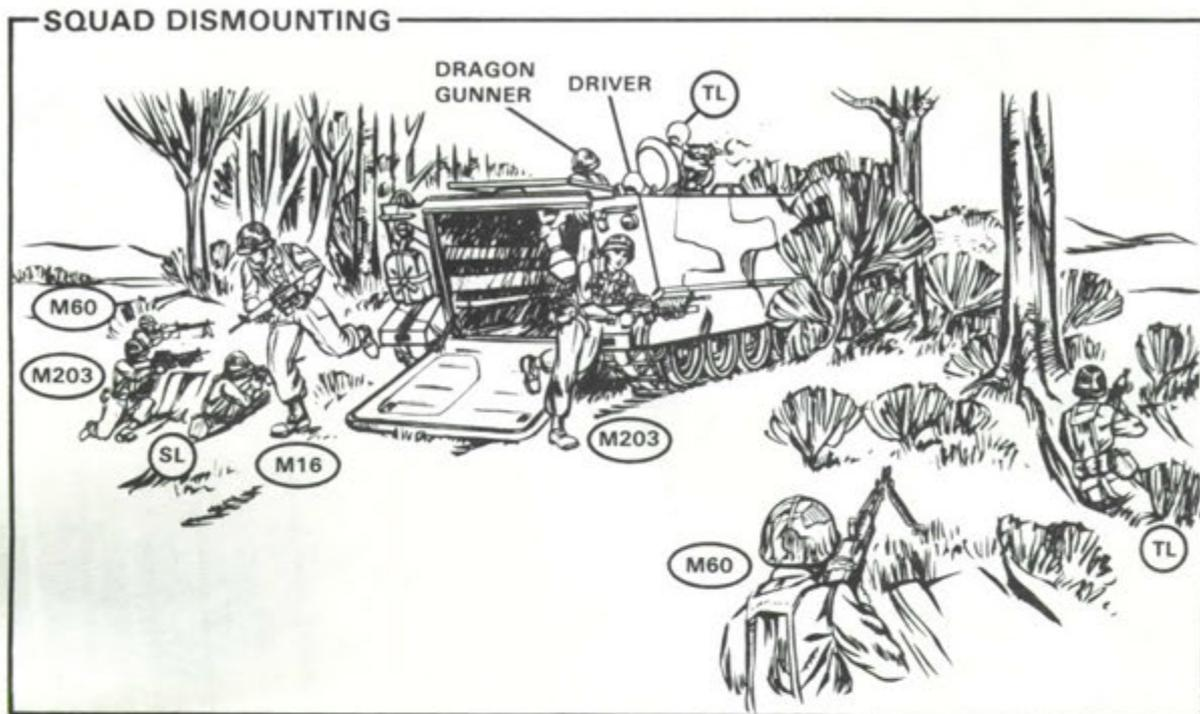

Figure 2.
c. **Conduct the entire assault dismounted.** This technique should be used when the enemy has a strong defensive position, antiarmor weapons cannot be suppressed, visibility is limited, or there is an obstacle to mounted movement. The platoon leader selects the assault position and directs when and where the platoon will dismount. The squad leader selects the exact point to dismount. The squad leader should maintain dispersion between APCs and get as far forward as possible so that the dismounted squad can quickly join the platoon and move toward the enemy. The APC should be completely covered and concealed during dismounting. If APCs are to support from the assault position, they must not reveal their position until the dismounted elements are out of the beaten zone of enemy return fire. APCs normally operate under the control of the platoon sergeant and provide direct fire to support the assault. The platoon leader will normally direct which personnel and weapons will remain in each APC as part of the platoon support organization of the assault and support elements. The assault element (dismounted) normally takes a machinegun (LMG), several LAWs, grenade launchers, and hand grenades. The support element (mounted) normally consists of the APC and crew with the gunner employing either the cal .50 or Dragon as appropriate. Additional troops may remain with the APC to fire the Dragon and LMG. The dismounted element of the squad moves as part of the platoon and deploys for the assault under the platoon leader's direction. The squad closes with the enemy using normal dismounted assault techniques. The squad employs the LMG to provide sustained direct fire on those parts of the enemy position which are not adequately suppressed by firing from the APCs (figure 2 and 3).